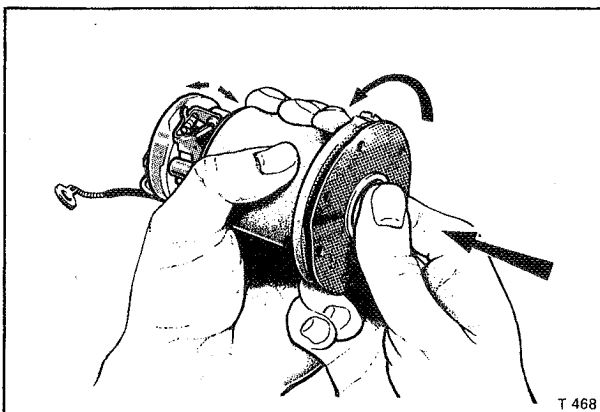

Fig. K24 Setting the diaphragm
18. Unscrew the diaphragm in an anti-clockwise direction, pressing and releasing with the thumb until the rocker just 'throws-over' (see Fig. K24). Continue to unscrew the diaphragm until the holes in the diaphragm align with the holes in the pump body. Then, unscrew a further four holes (i.e. two-thirds of a complete turn). The diaphragm is now correctly set.